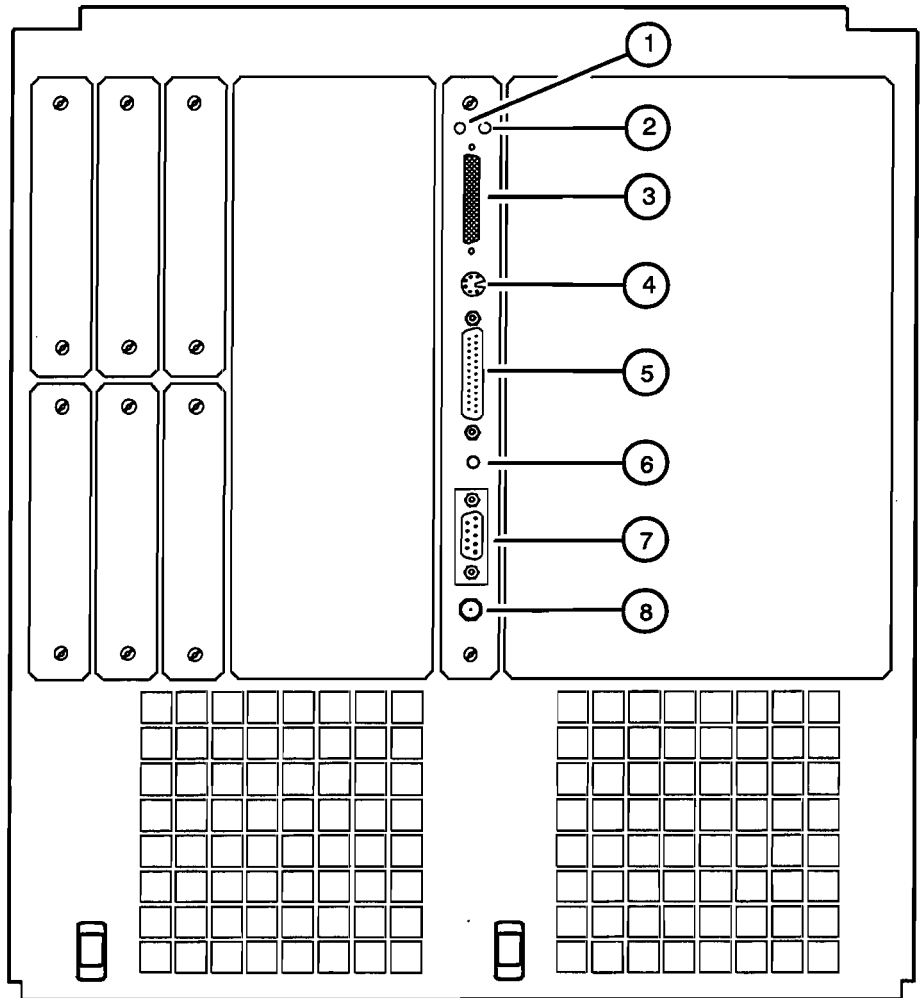

Figure 3-8. HP 9000 887S, 897S Console Terminal Connector
5. If you have an HP 9000 887S, or 897S, connect the other end of the console terminal data cable to the console connector, number 4, figure 3-8.